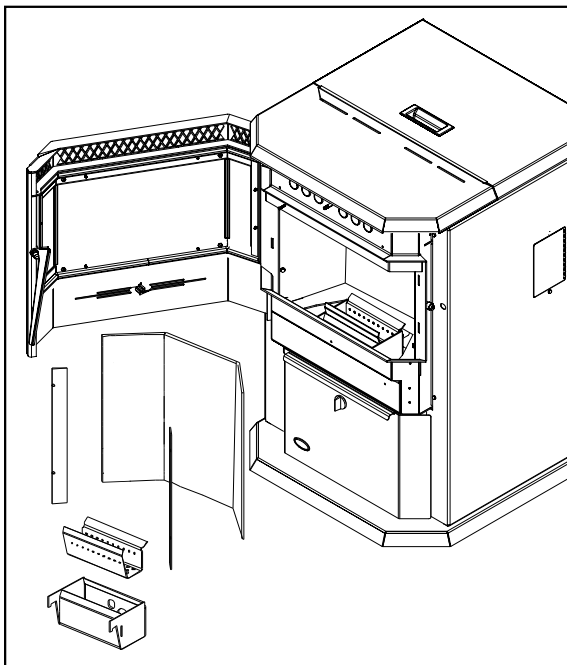

Figure 12: Firebox Components Removal
**Removal of the firebox backing for bi-annual cleaning (refer to Figure 12):**
- c) Loosen (do not remove) the four (4) screws that hold the brick liner retainers in place. Remove side brick liners by sliding them from under the screwheads.
- b) Place the two (2) side panels back into the firebox, secure the two (2) retainers and lock down by tightening the two (2) screws on each side.